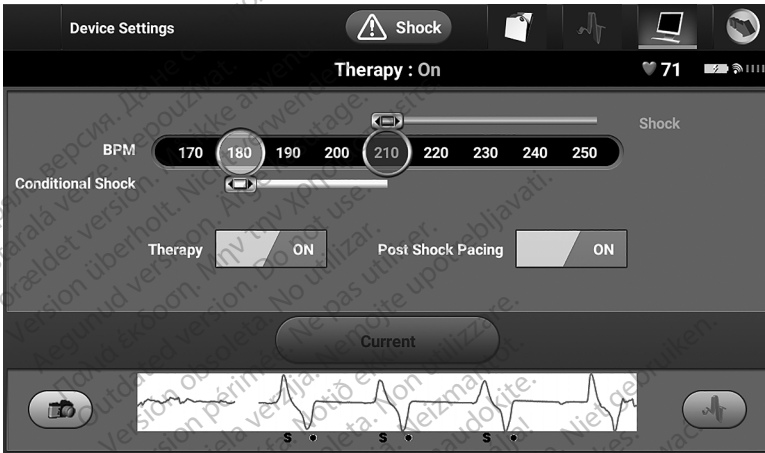

Figure 23. Setting the desired first shock energy for defibrillation testing
2. Select the Shock Test button to set up the induction test (Figure 23 Setting the desired first shock energy for defibrillation testing on page 35).